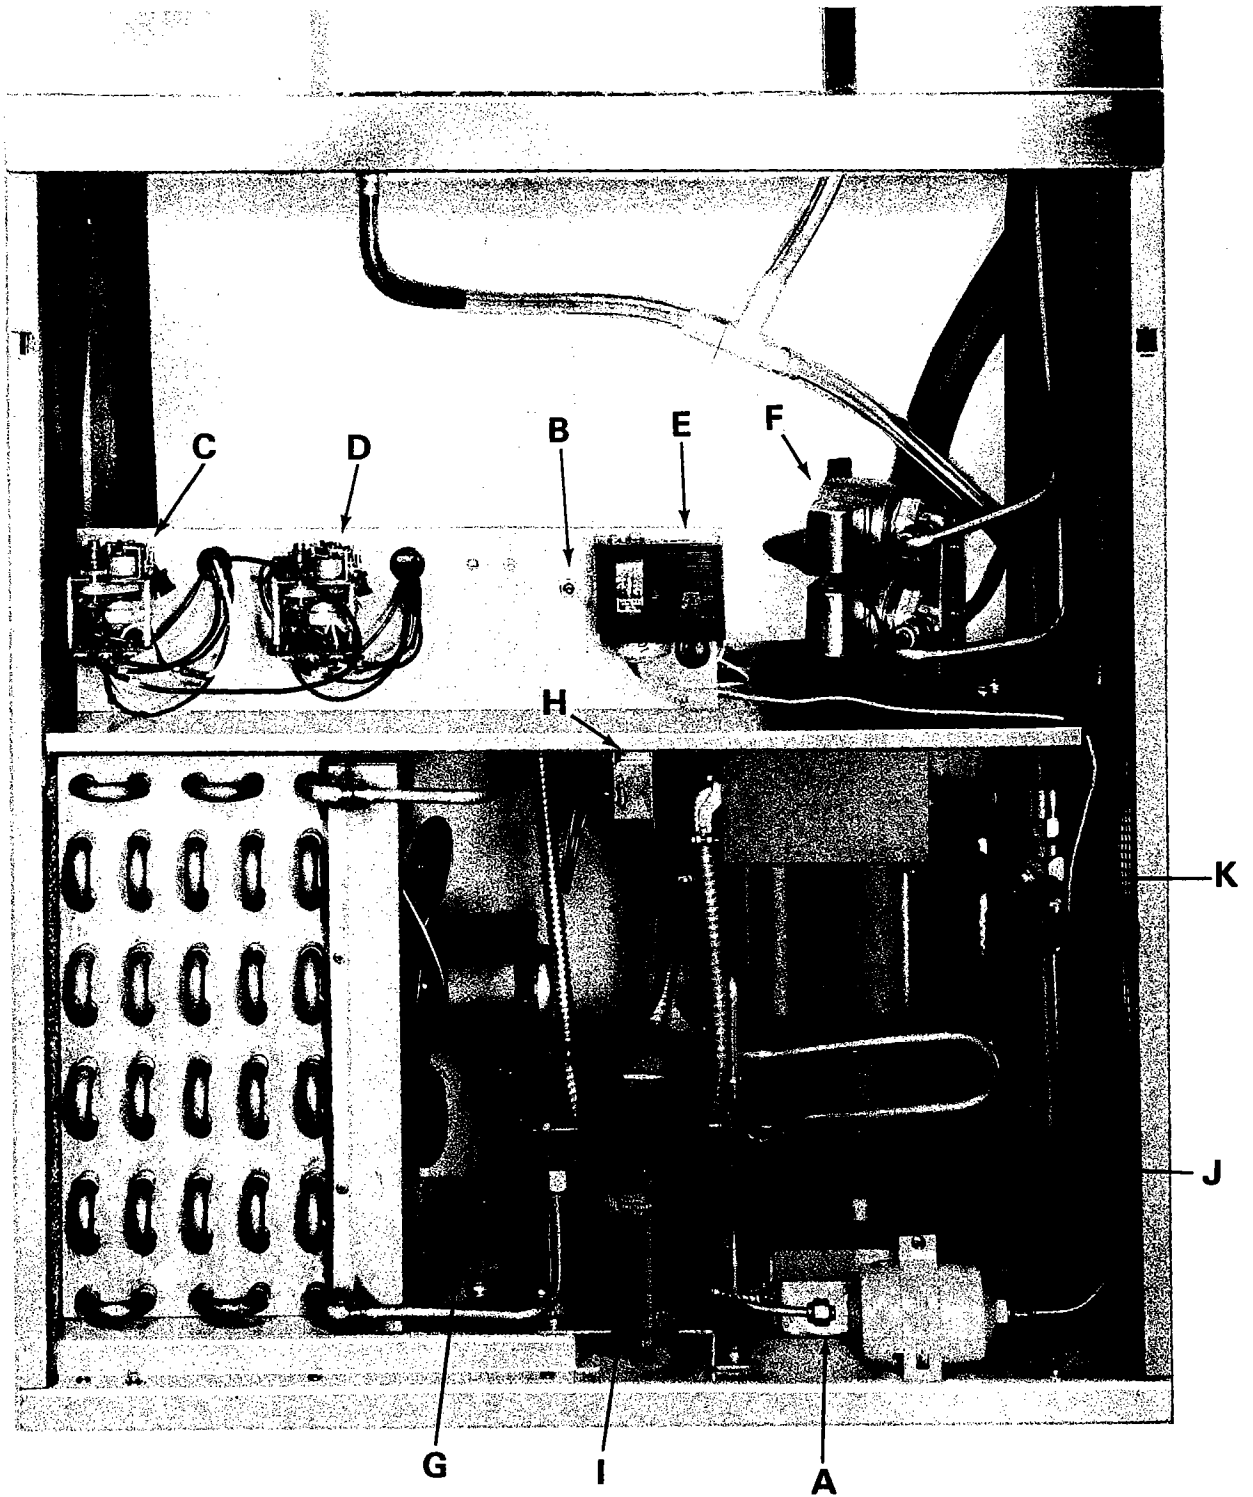

FIG. 5
1. Remove the control box cover (Fig. 5).